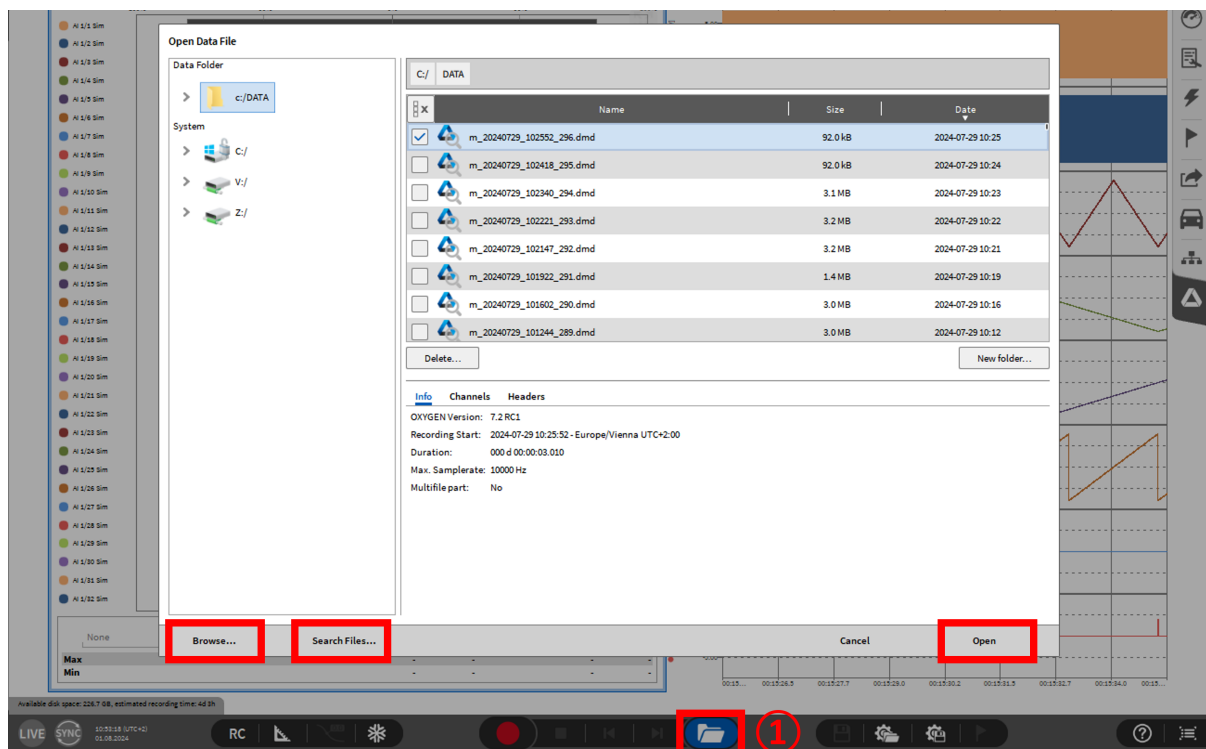

Fig. 3.15: Opening a Data File
1. Touch or left click the folder icon in the Action bar (see ① Fig. 3.15 or ⑫ in Fig. 3.5)
9. The *Open* button will open the selected Setup file (see Fig. 3.15).